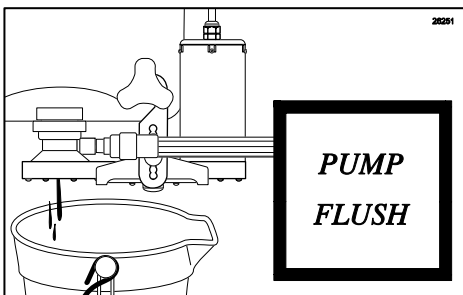

Figure 51
15. Place a container under the Injector Head to catch residual sanitizer solution and/or fresh product to be dispensed and press PUMP FLUSH to prime the syrup line. (See Figure 51.)